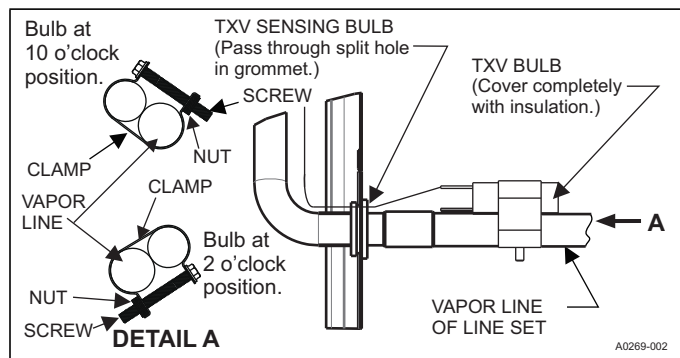

FIGURE 8: Proper Bulb Location
- If possible, install the temperature bulb on a horizontal run of the vapor line. Ensure that the bulb is installed at a 10 o'clock or 2 o'clock position. See Figure 8.